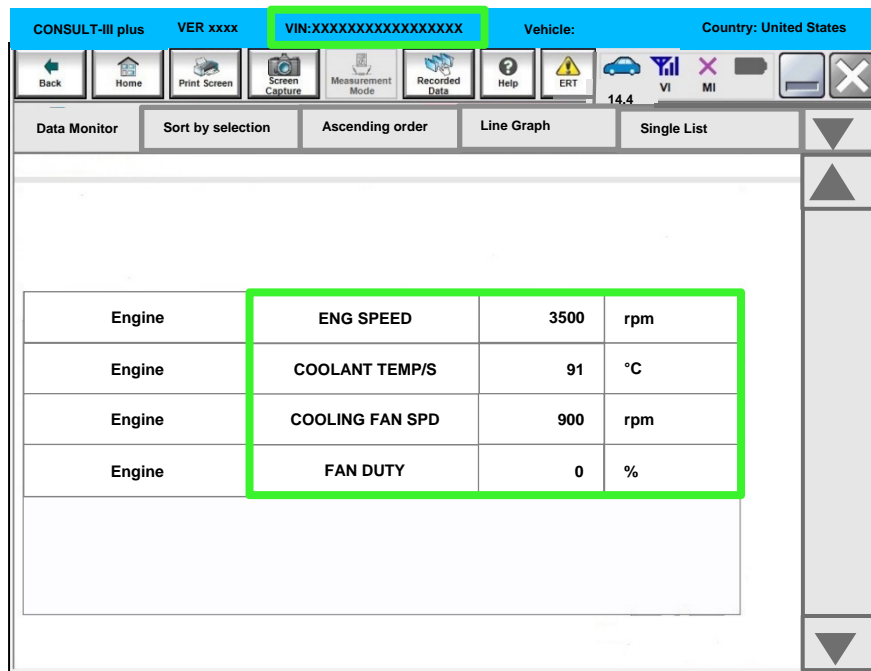

Figure 1
12. Obtain a screen shot, photo or video of **Data Monitor** (Figure 1) showing the following: